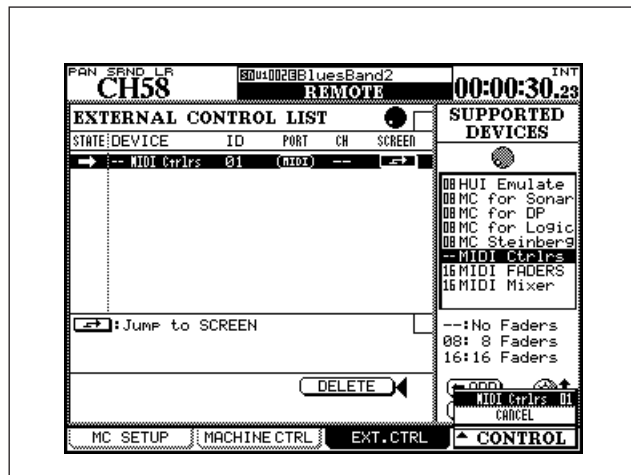

Figure 8.3: External Control
- 2 Move the cursor to the SCREEN column with the on-screen button, and press **ENTER**, or (as shown in Figure 8.3, *External Control*), press the POD 4 switch to bring up the popup menu
- 1 Select the MIDI FADERS option from the external control screen (Figure 8.3, *External Control*).
- 1 Select the MIDI Mixer option from the external control screen (Figure 8.3, *External Control*).